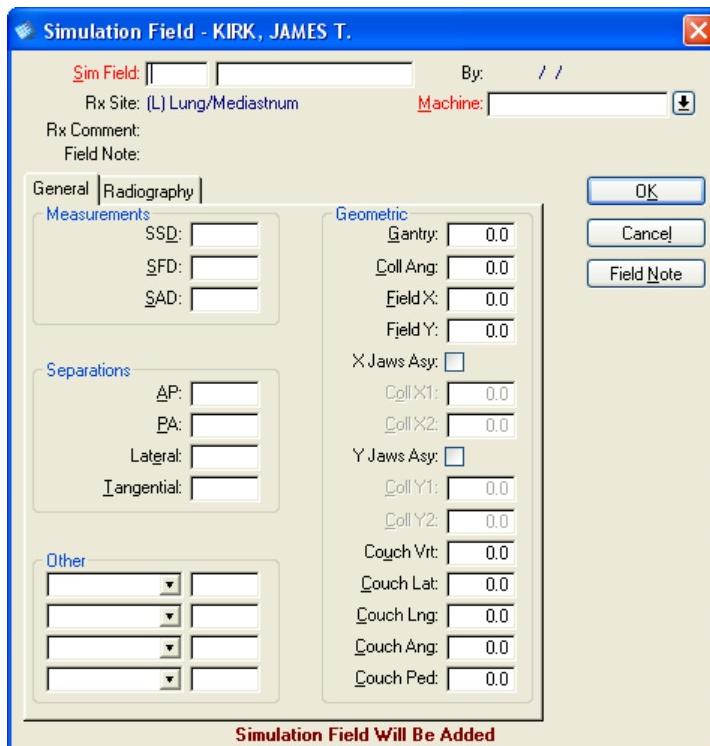

Figure 17: Simulation Dialog Box
2. In the *Add* group, click **Simulation**, then click **Field** to open the Simulation Field dialog box, shown in Figure 17.